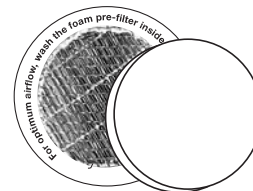

Figure 13c
5. Place clean Foam Filter into the bottom of the Bin Handle/Filter Assembly. Carefully tuck the edges of the Foam Filter inside the rim of the Bin Handle/Filter Assembly. (See Figure 13c.)